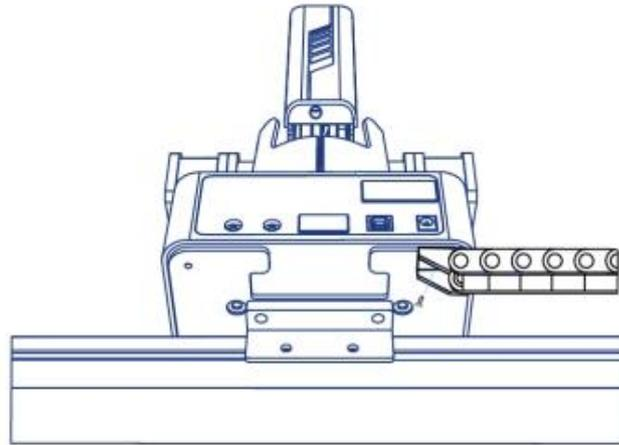

Figure 5.47 Connect to wire set
- Step 3** Connect the end of the wire set to the plate b with a M3*6 countersunk head hexagon screw, as shown in Figure 5.47.